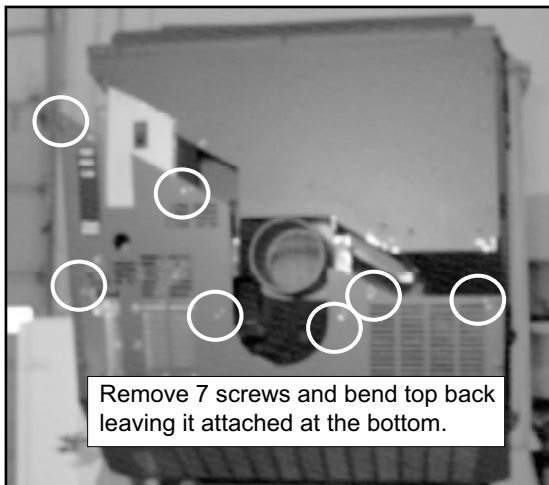

Figure 32.1
- c. Remove 7 screws from the back screen and pivot the top of the screen toward you leaving the bottom attached to stove. **Figure 32.1.**